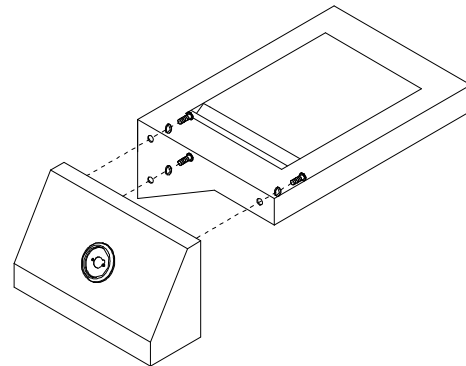

Figure 2
2. Attach side control panel to side burner shelf by using $\frac{1}{4}$ " x 15mm Philips head screws. (Fig.2)